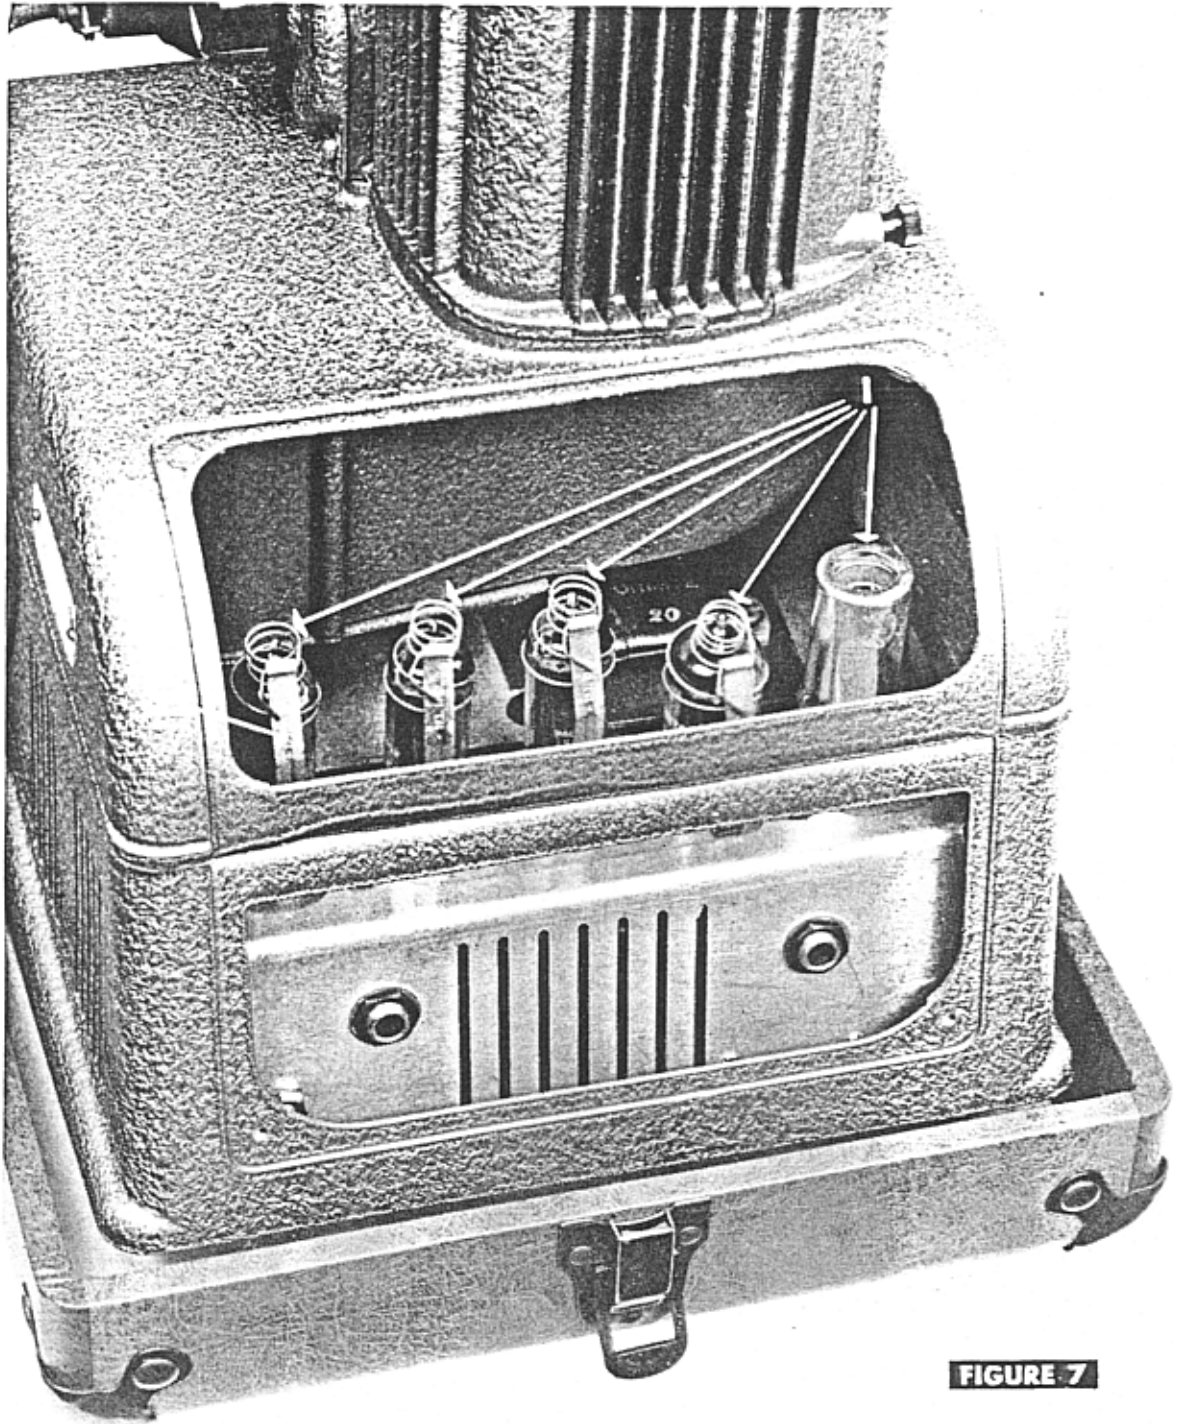

FIGURE 7
- d. Tubes—Remove the four screws (8 Fig. 6) and lift off the tube cover (9 Fig. 6). This will expose the tubes (1 Fig. 7). When replacing the amplifier tubes be sure to align the pins on the tubes with the holes in the sockets before attempting to insert tubes. To release the tube retainers push the retainer clips (2 Fig. 7) to the left.